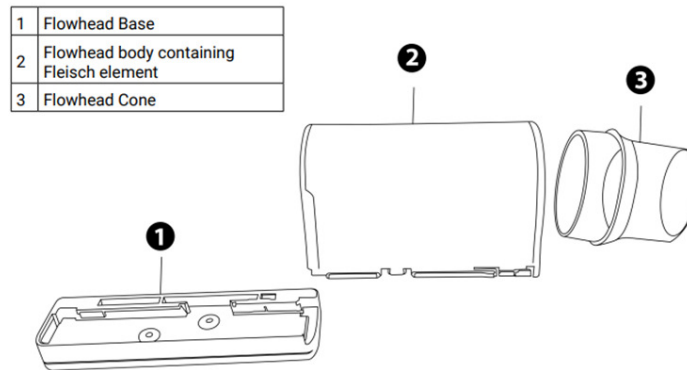

Figure 2: Disassembled Flowhead
2. Refer to Fig. 2: Flowhead Assembly.